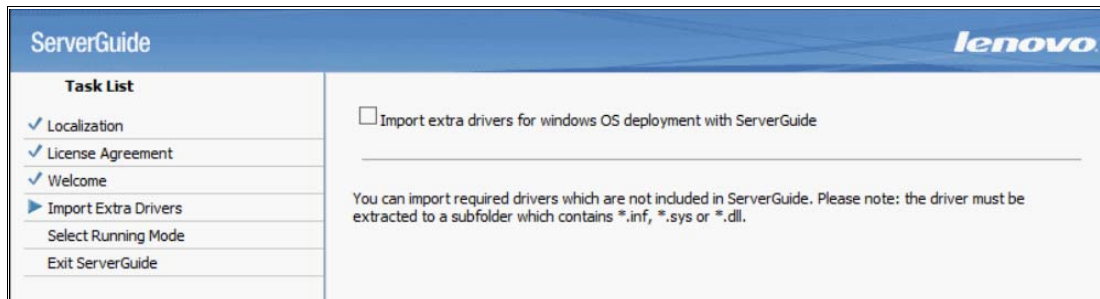

Figure 6-15 Import drivers
8. In the next panel, you can import drivers that are not included in ServerGuide, as shown in Figure 6-15.